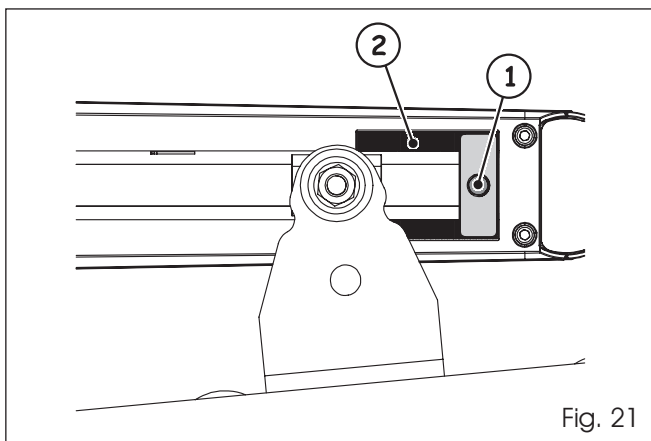

Fig. 21
3. Loosen the bolt, Fig. 21 ref. 1. The bolt does not need to be completely removed.
The mechanical stop is coupled to a toothed section on the operator's body, Fig. 21 Ref. 2. In case of difficulties moving the stop check that the coupling is free. Do not force it.